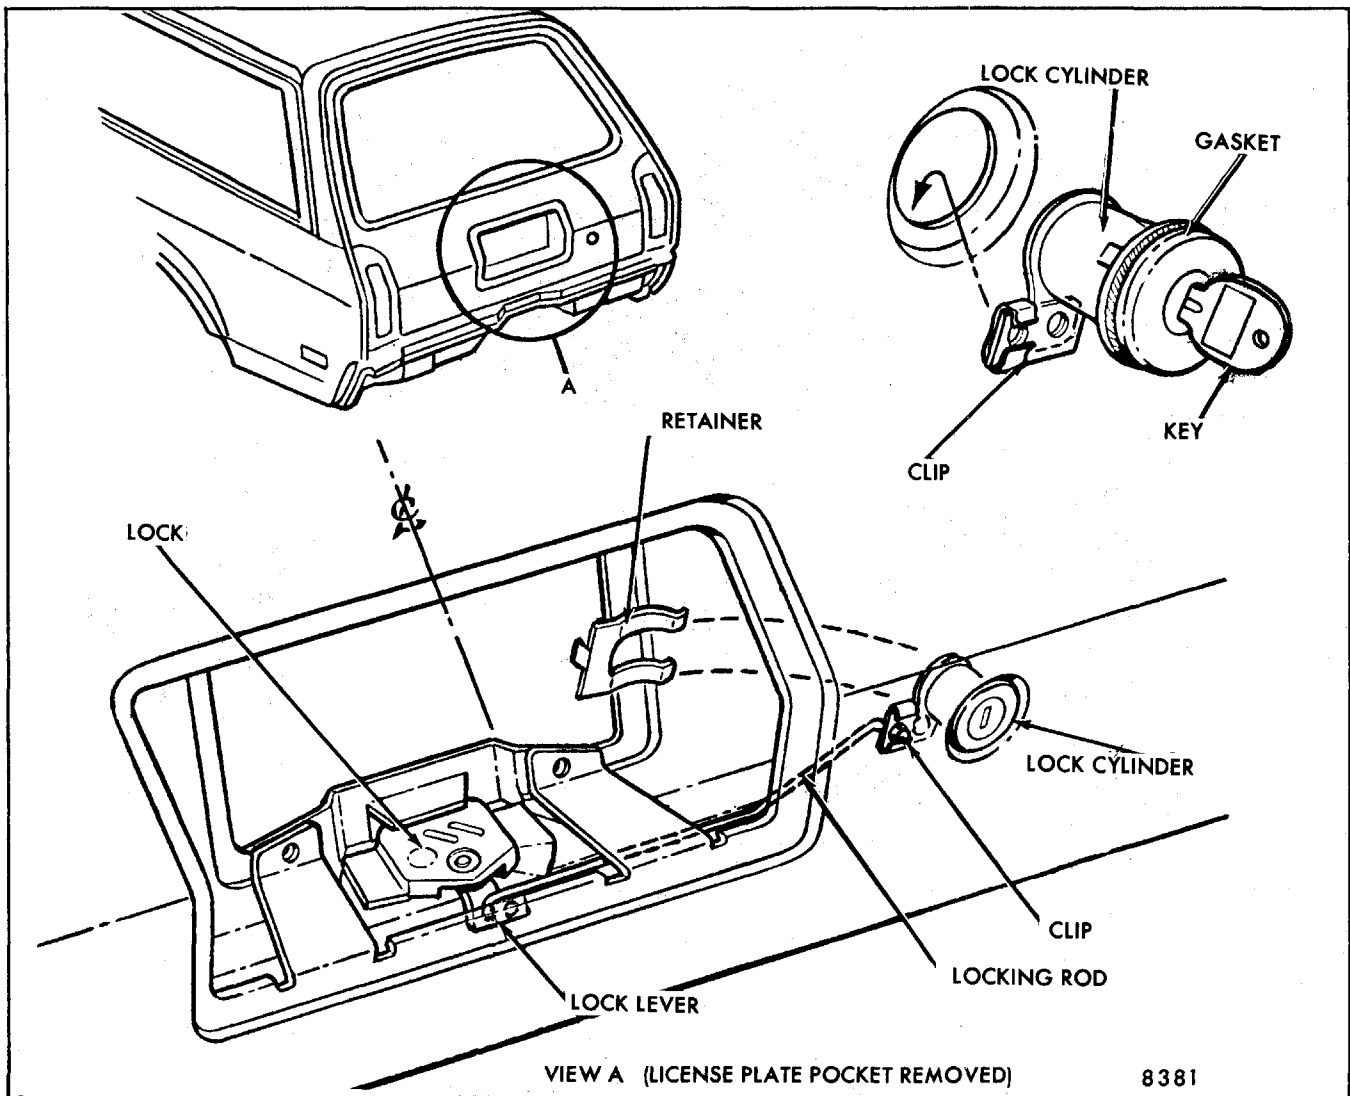

Fig. 7-92-Lock Cylinder Installation - "H-15" Styles
2. Working through access hole, remove locking rod from lock cylinder (Fig. 7-92).